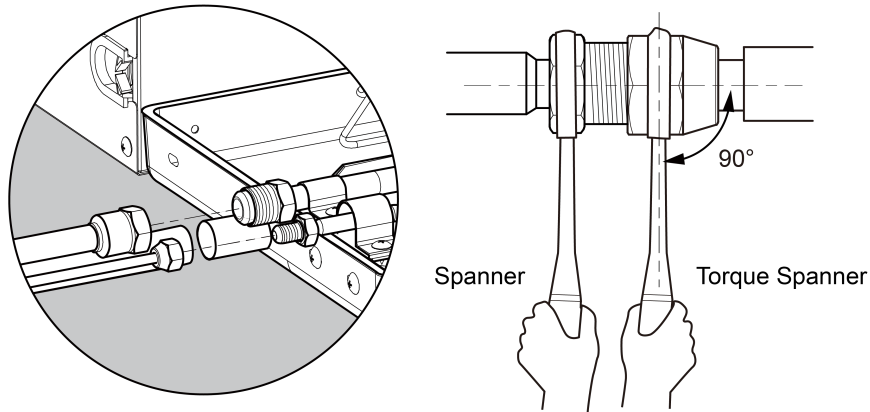

Fig.3.4.1
- (1) Before welding the pipeline sealing cap, please make sure there’s no refrigerant in pipeline. If welding it directly, it may cause unnecessary property damage or personal injury.
- (2) Conform to the following principles during pipe connection: Connection pipeline should be as short as possible. The height difference between indoor and outdoor units should be as short as possible. Keep number of bends as little as possible. The radius of curvature should be as large as possible.
- (3) Weld the connection pipes between indoor and outdoor unit. Please strictly conform to the requirements for welding process. Rosin joints and pin holes are not allowable.
- (4) When laying the pipes, be careful not to deform them. The radius of bending parts should be more than 200mm. The pipes can't be repeatedly bent or stretched, otherwise the material will get harden. Do not bend or stretch the pipe over three times at the same position.
- (5) Please use a torque wrench to connect union nut on the indoor unit. See the Fig. 3.4.1 as below.